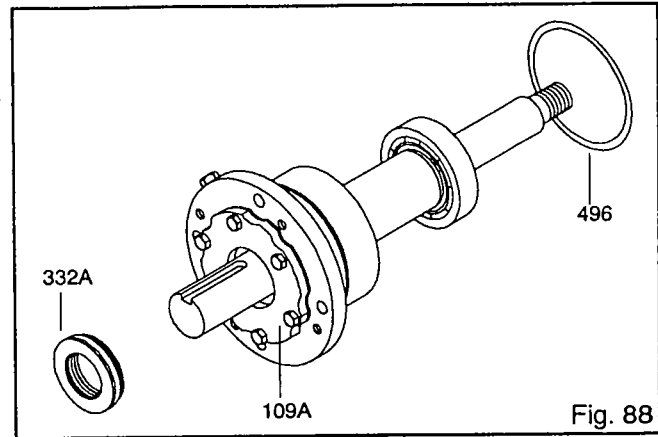

Fig. 88
9. Install new O-ring (496) (Fig. 88).
10. Install outboard labyrinth oil seal (332A) into end cover (109A). It is an O-ring fit. Position the labyrinth seal drain slots at the bottom 6 o'clock position (Fig. 88).